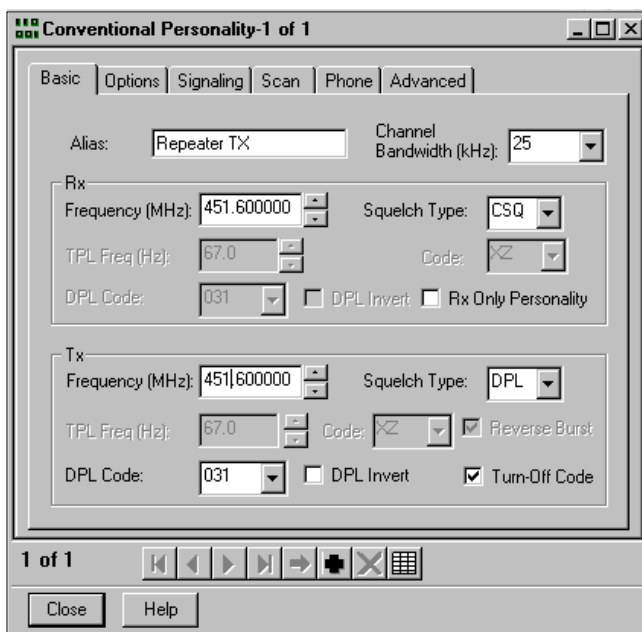

Figure 8-8. Conventional Personality, Basic, Transmit Radio
21. Select the transmitter “Squelch Type:” based upon the type of operation that is required (CSQ, TPL or DPL). Your screen should appear similar to Figure 8-8.